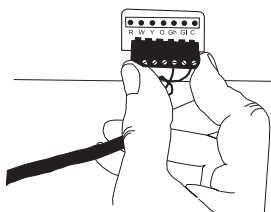

Fig. 20 – Terminal Connector Removal and Replacement
6. Locate thermostat connection terminal on control box (see Fig. 21). Carefully remove terminal block from unit (see Fig. 20).